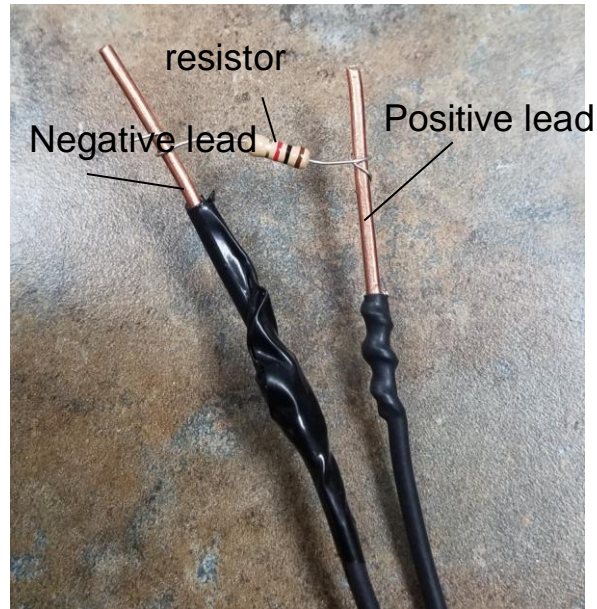

Figure 5-8
5. After the range has been selected, remove the resistor or component being measured out of a circuit then connect the black negative test lead to one side of a component then put the red positive test lead to the opposite side so that the multimeter is parallel to the component or circuit being measured as shown in figure 5-8. Note: If the polarity has been switched, the reading will be the same.